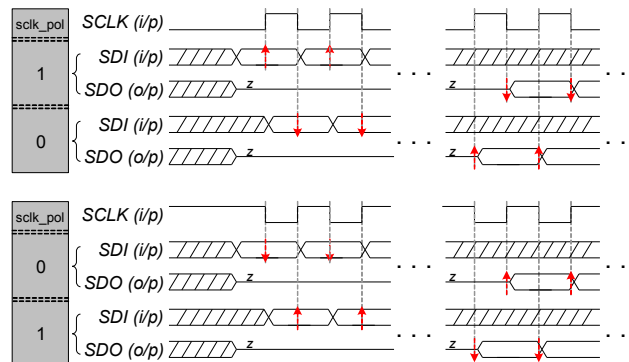

Figure 5: Configuration Interface Transfer Format
The most significant difference in these two interface mechanisms lies in their addressing schemes. Each SPI device has its own chip select (CS) input. The SPI master selects any given SPI slave device by activating its chip select (for the QF1D512, pulling it low). At any given time, only one SPI slave will be selected, so any commands sent are responded to by that device. The I2C interface does not use chip selects. All I2C slave devices receive every command and the addressing scheme, imbedded in the software protocol, determines which slave is to respond to the command (see figure 5).